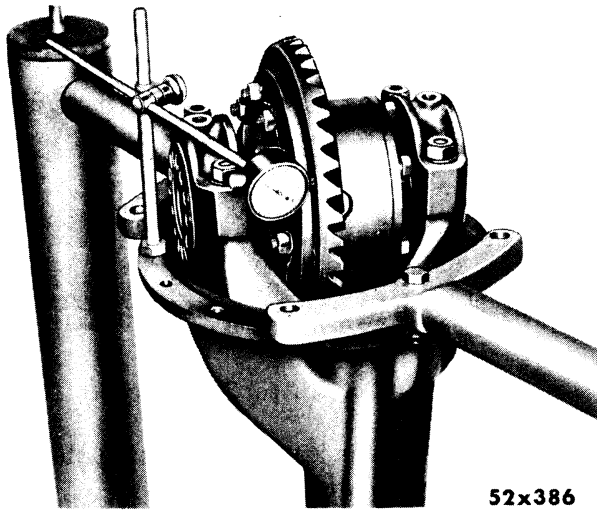

Fig. 42—Checking Ring Gear Runout
- (3) Mount a dial indicator with the pointer resting against the back face of the ring gear and check the runout. Runout should be true within .005 inch, as shown in Figure 42.